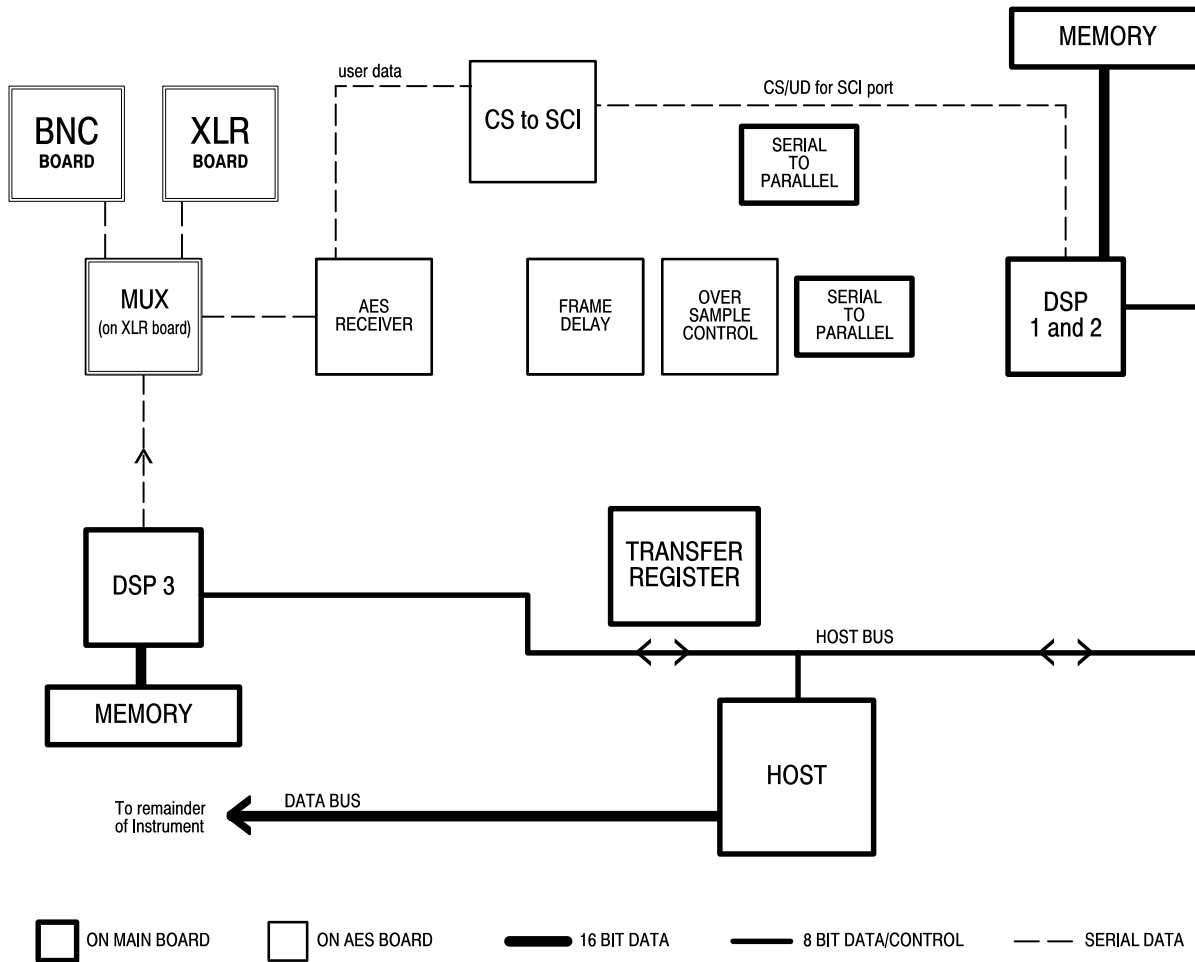

Figure 5-6: The user data tests
- User data tests, DSP1 User Data and DSP2 User Data, Figure 5-6.